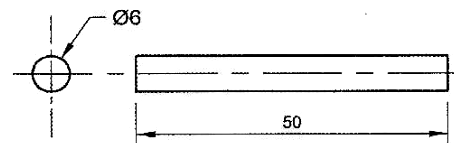

FIGURE 3
- 6** One piece  $\varnothing 6 \times 50$ mm long, as shown in **Figure 3**.